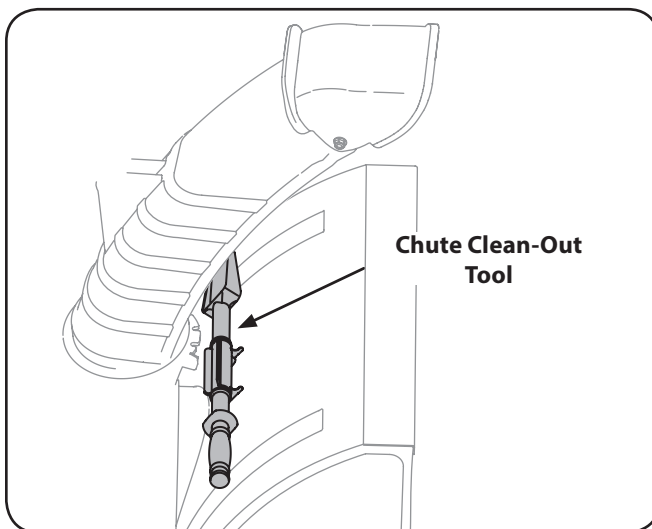

Fig. 3-10
**NOTE:** This item is fastened with a cable tie to the rear of the auger housing at the factory. Cut the cable tie before operating the snow thrower. See Fig. 3-10.